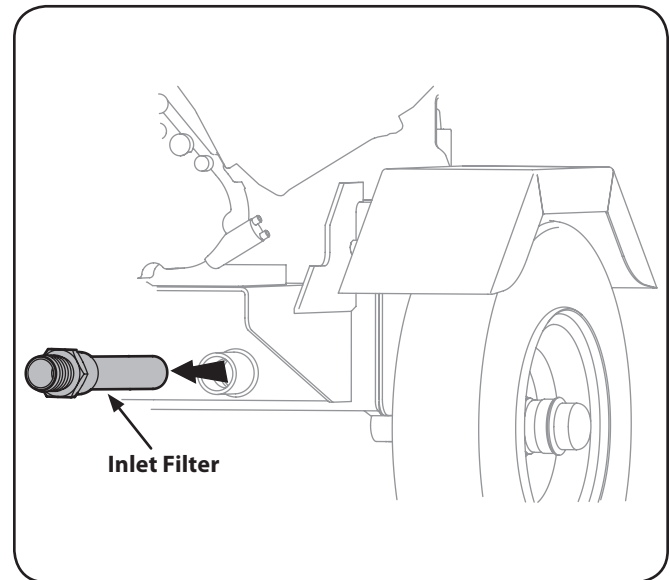

Figure 6-2
3. Carefully un-thread the inlet filter and clean it with penetrating oil. See Figure 6-2.